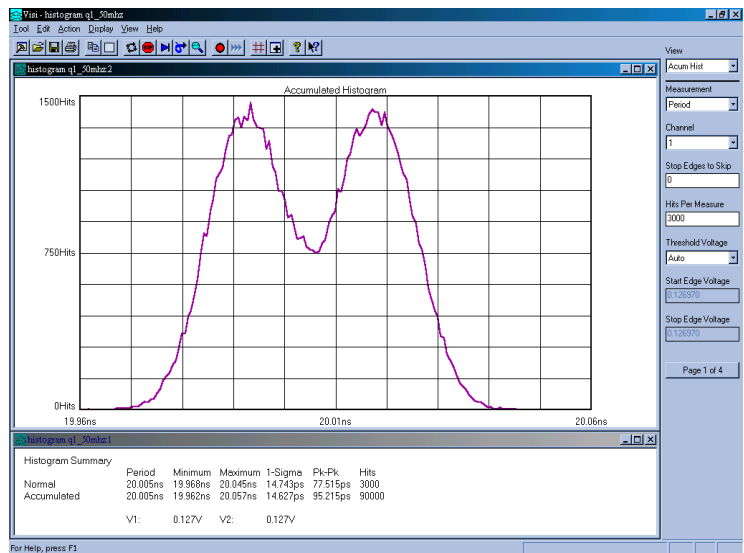
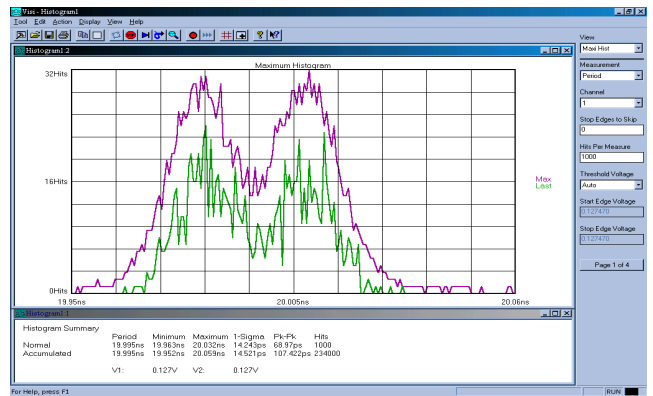
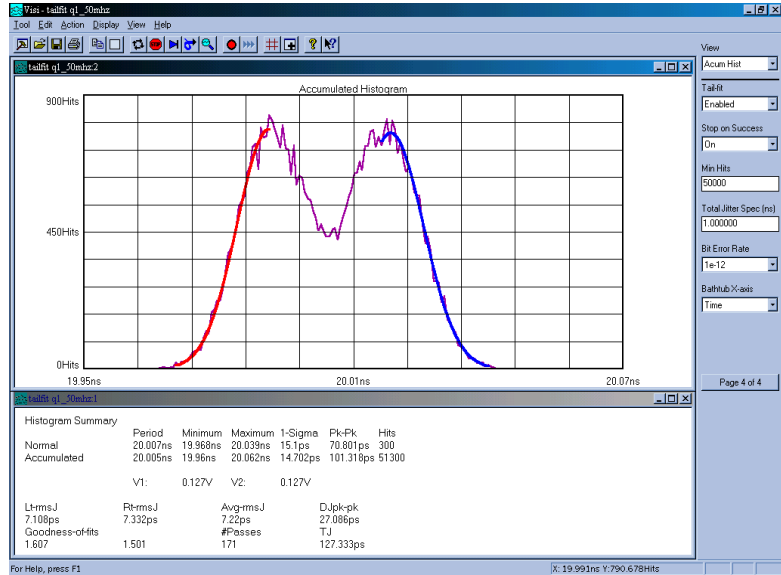

Figure 2. Histogram without TailFit™
Figure 3. Histogram using Maxi View
Figure 5. Histogram with TailFit™ enabled
Any feature, which makes the distribution deviate from a perfect Gaussian distribution, is evidence of deterministic jitter (DJ). Therefore, in the presence of DJ, the  $1\sigma$  value cannot be used as the true RJ value. If the histogram distribution is multimodal, as in Figure 2, the  $1\text{-Sigma}$  value does not accurately reflect the random jitter component. Additionally, the peak-to-peak value does not offer valuable information. It too is a combination of both the RJ and DJ components.
The *Propagation Delay & Skew* tool, as with the *Histogram* tool, produces four different views: Accum, Max, Bathtub and Summary. The “Accum” view (Figure 2) puts all measurements from multiple acquisitions into one histogram. The “Max” view (Figure 3.) is useful to see low frequency or low probability events as outliers. Rather than auto-scaling all measurements into one histogram, the most recent histogram is shown in addition to the maximum extents of all previous histograms. Period drift or wander can be seen in this view. The “Bathtub” view, described later in this document, illustrates long-term reliability of the measurements, and “Summary” is a text view of all pertinent information.
Both Figures 3 and 5 have about the same 1-sigma and Pk-Pk values, but Figure 5 separates the jitter into its individual components. A DJ value is now displayed in the summary window. RJ is displayed as Left side (Lt-rmsJ), Right side (Rt-rmsJ), and Average (Avg-rmsJ), which can be used if the left and right RJ's are different. Note that the 1-sigma value is larger than the Avg-rmsJ, which represents the true random component. A Total Jitter (TJ) value is now present in the summary window; it is derived from the bathtub curve below.
1) The lines on this plot are inversely proportional to the TailFit™ curves in Figure 5. Here, the left line corresponds to the right tail-fit, and the right line corresponds to the left TailFit™.